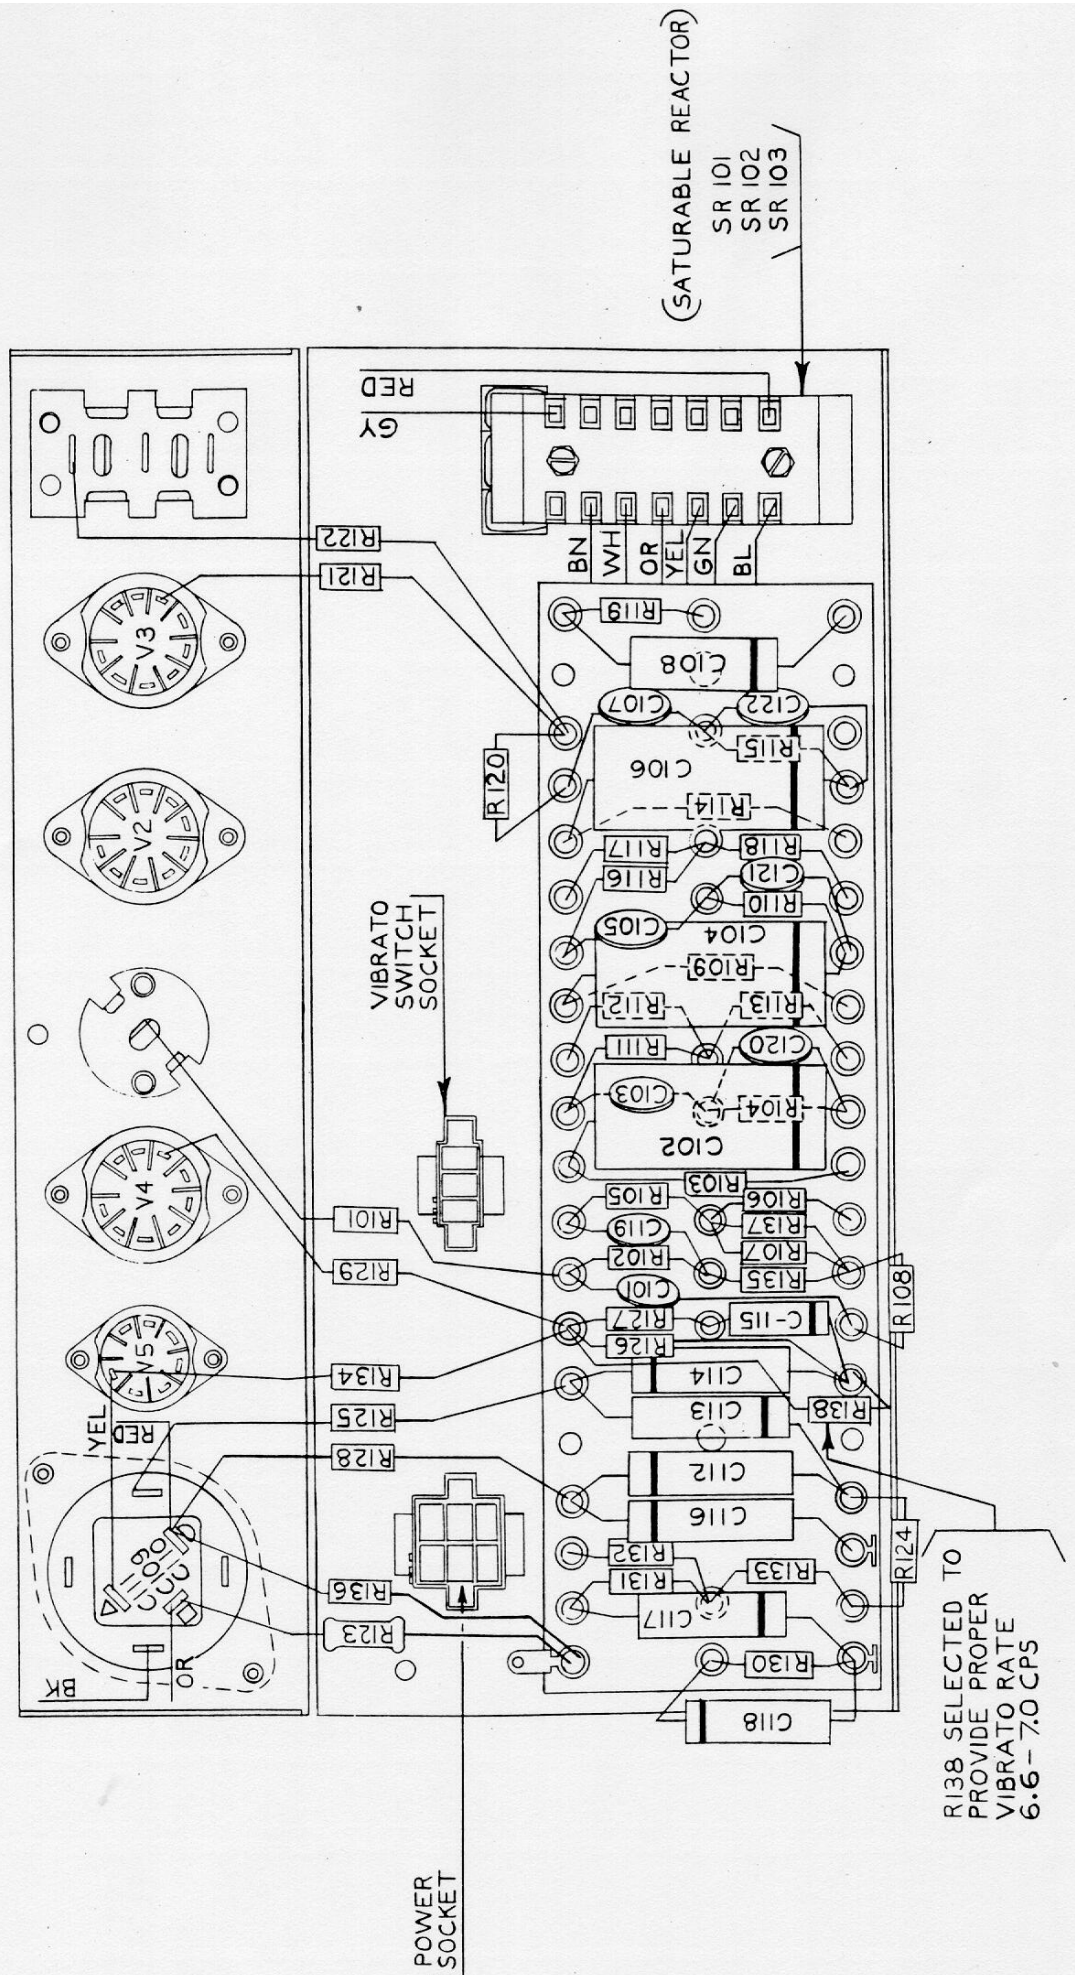

Figure 5-15. Parts Layout AO-41 Vibrato Amplifier
- a. The vacuum tubes are all standard radio types and can be tested in the usual way. Figures 5-15 through 5-18 show the location of tubes in the amplifier.